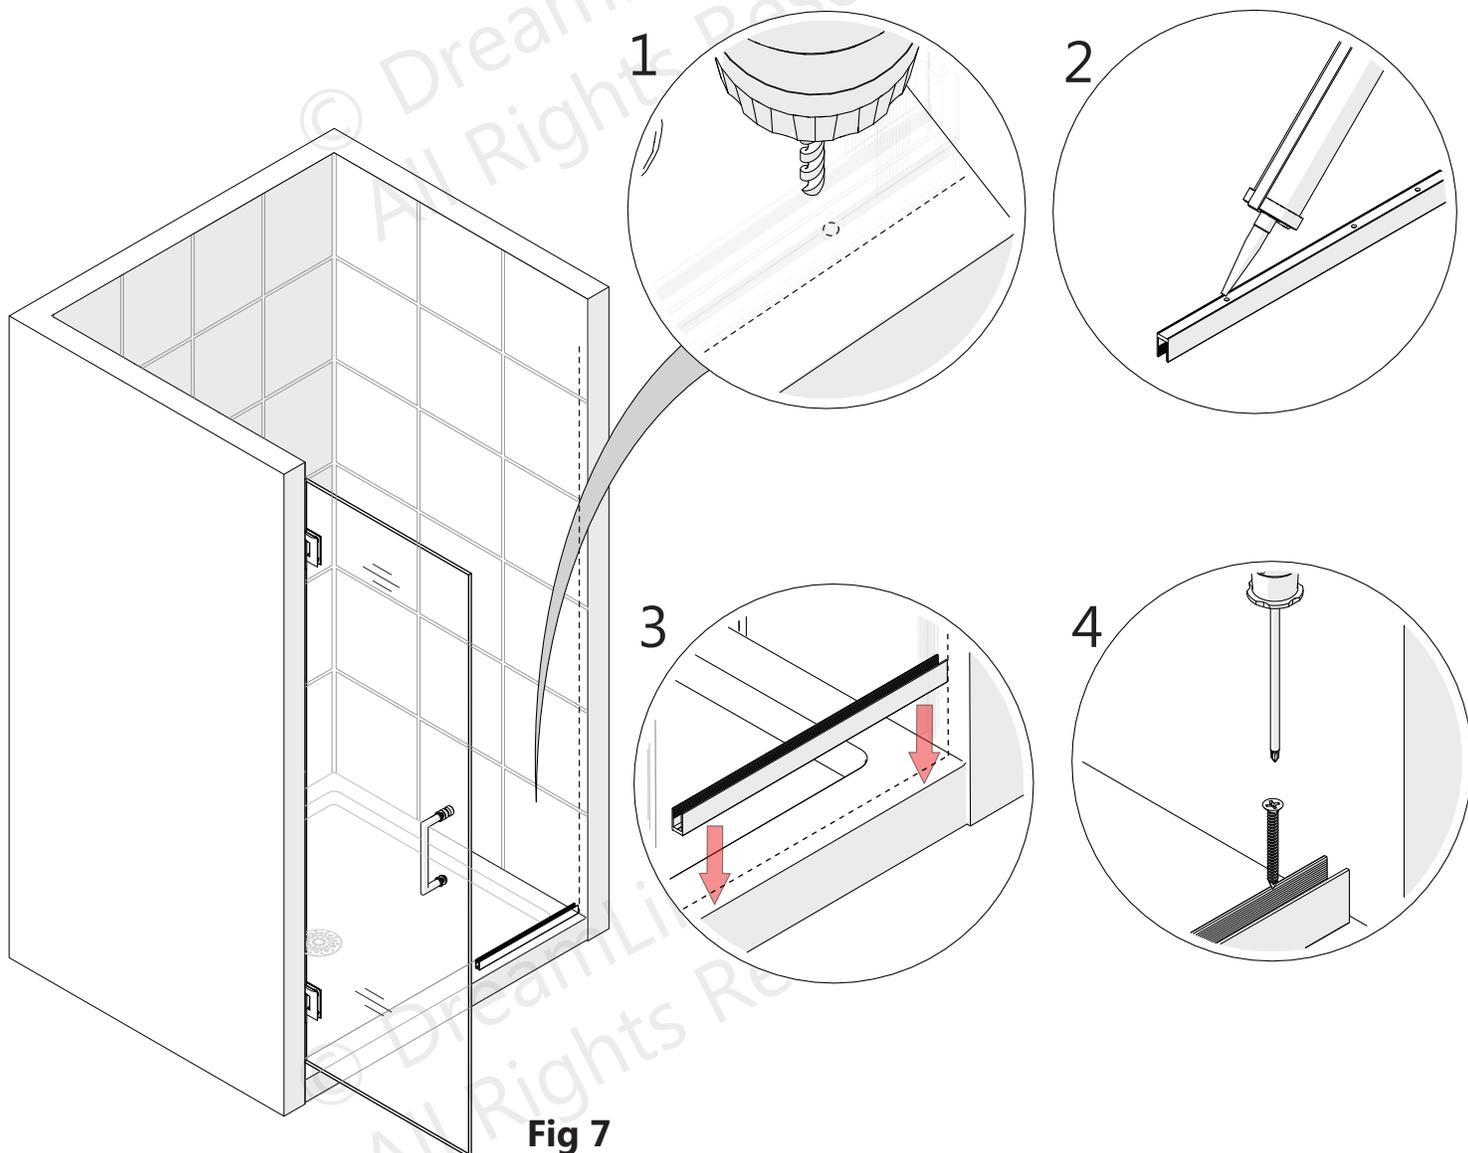

Fig 7
- drill a $\text{Ø}3/16''$ (4mm) hole up to the stud, drill an $1/8''$ (3mm) pilot hole into the stud. (Fig 7)
Add a bead of silicone to the back surface of the **U-Channel (#01)** and attach it to the wall using four of the **ST4.0 x 40 Pan Head Screws (#23)**. (Fig 7)